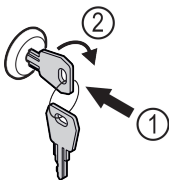

Fig. 95
- Insert key Fig. 95 (1).
- Turn key clockwise by 90° Fig. 95 (2).